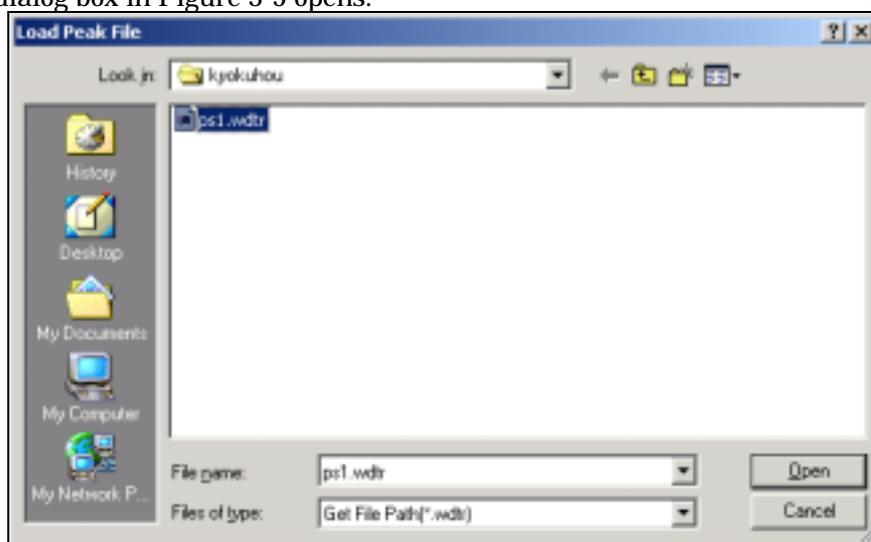

Figure 3-5. Load Peak File dialog box
1. The dialog box in Figure 3-5 opens.